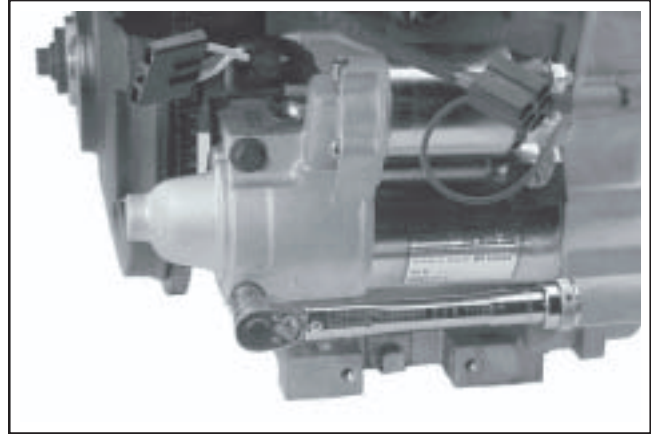

Figure 11-76. Torquing Starter Bolts.
2. Make sure the starter is square to the flywheel, and torque the two hex. flange screws to **15.3 N·m (135 in. lb.)**. See Figure 11-76.